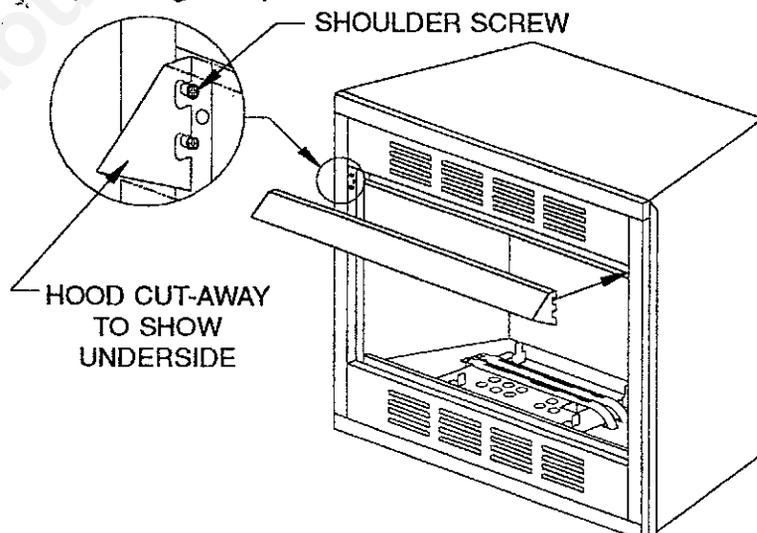

Figure 6 - Installing the Fireplace Hood.
1. Slide the Hood over the shoulder screws and gentle press down until secure. **NOTE:** There are (2) shoulder screws on each side of the firebox opening directly below the top plate. These shoulder screws should line up with the notches on the sides of the Fireplace Hood. (See Figure 6)